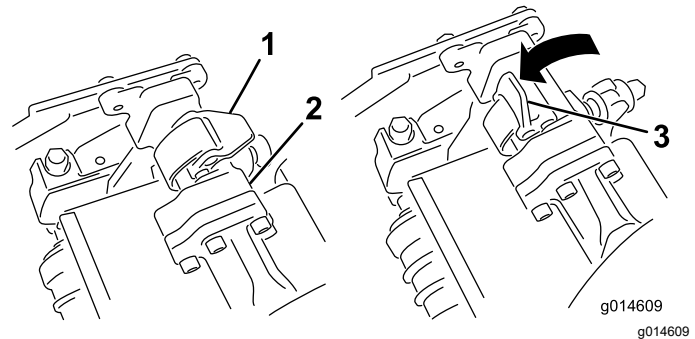
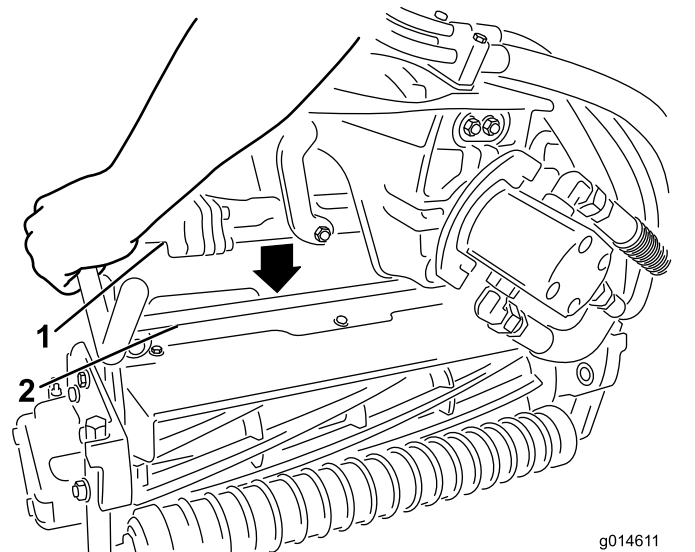

Figure 56
Figure 57
4. Open the latches on the suspension-arm bar (Figure 56) and push the suspension arm down so that the bar fits over both pitch arms on the cutting unit and ensure that the latches go underneath the cutting-unit crossbar (Figure 57).
5. Close the latches down and around the cutting-unit bar and lock them in place (Figure 56).
6. Open the latches on the suspension-arm bar of the cutting unit you are removing (Figure 56).